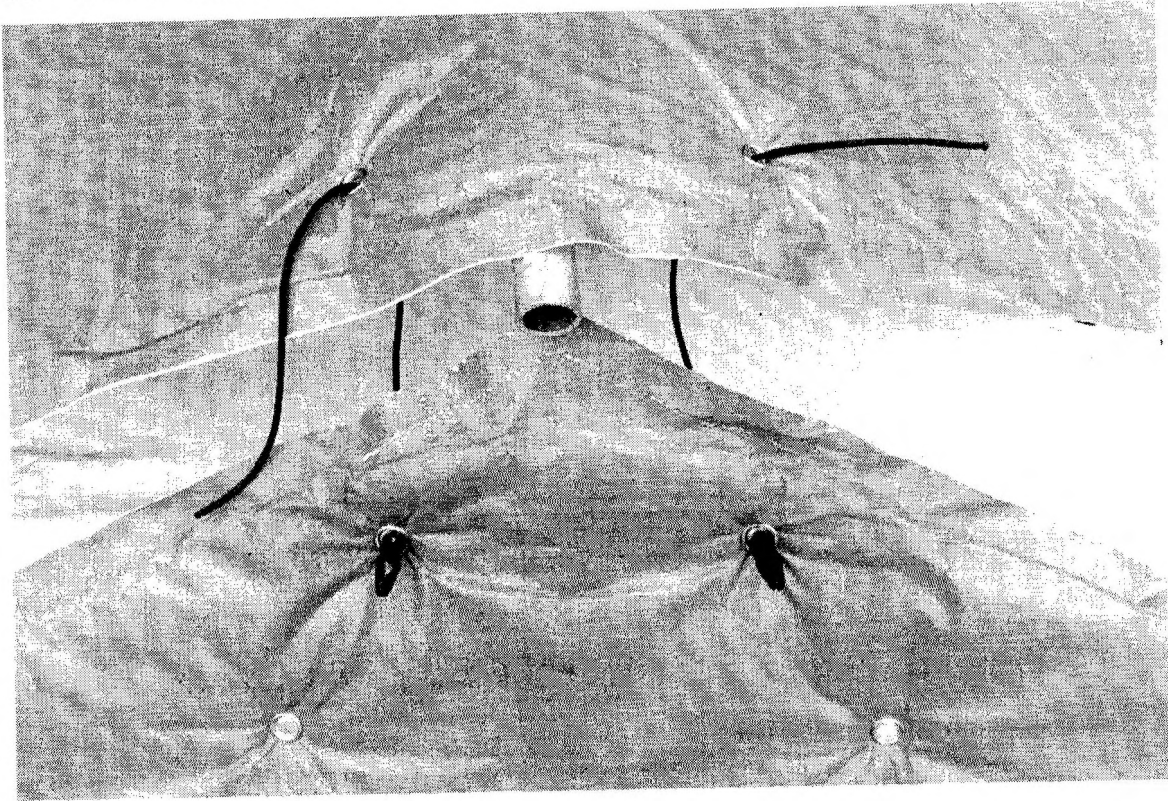

Figure 65: Overlap insulation using toggles and eyelets
71. Fit components 2 and 4 ensuring that they overlap on the outside. Fit components 1 and 5 ensuring that they overlap on the outside Fig 65.